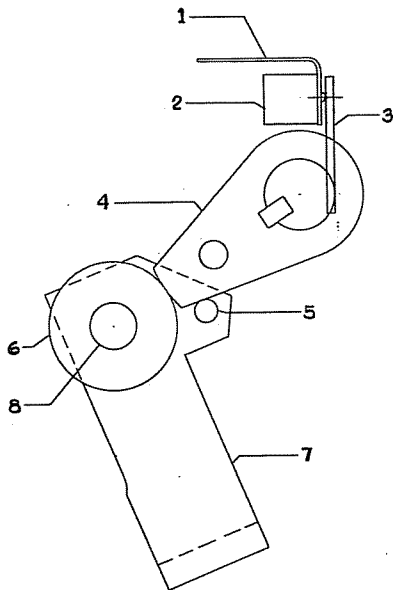

Figure 13. (0114C5320) Latch Checking Switch
Refer to Figure 13. Charge the closing springs sufficiently to reset the mechanism linkage. Rotate the trip latch (4) by pressing the manual trip lever to open the latch checking switch (2). Allow the trip latch to reset slowly and determine the point at which the contacts are made by using a circuit continuity tester (light indicator, bell set, etc). The contacts of the latch checking switch should just make when the gap between the trip latch (4) and the stop pin (5) located on the latch roller link (7) is 1/16". There should be a minimum of 1/64" between the switch arm (3) and the switch support (1). To obtain adjustment of the latch checking switch, bend the latch checking switch arm (3).